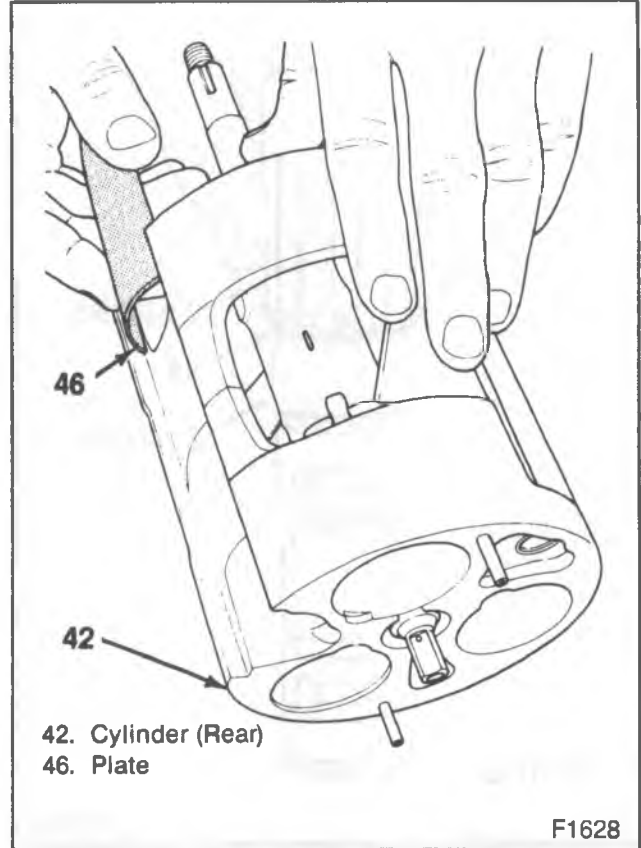
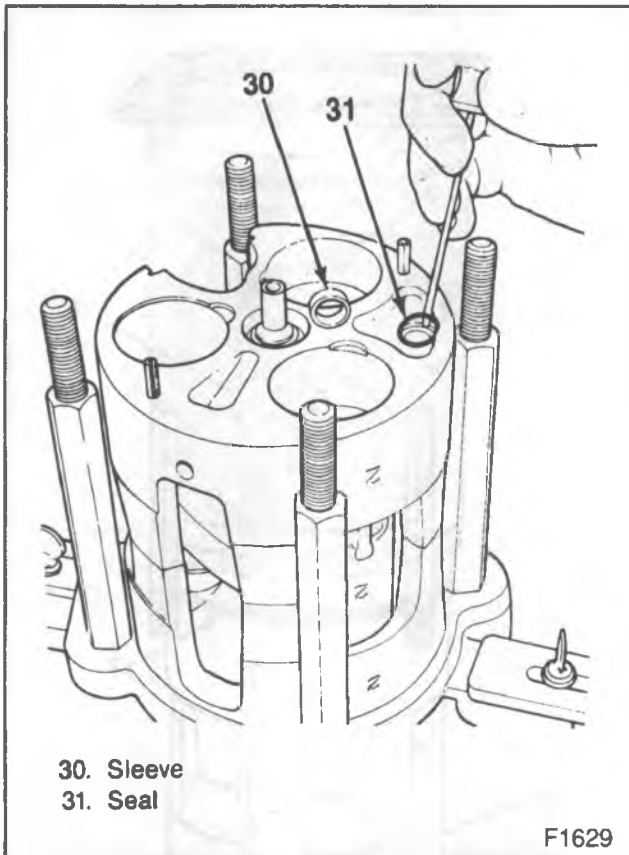

Figure 42—Installing the Suction Crossover Tube Plate
Figure 43—Installing the Discharge Crossover Tube
8. Suction cross-over cover (46) (figure 42).
- Compress the cover (46) to start it into the slot.
- Press or top the cover (46) until the ends are flush.
9. Seal (925) and bushing (24) to the front end of the discharge cross-over tube (26) (figure 43).